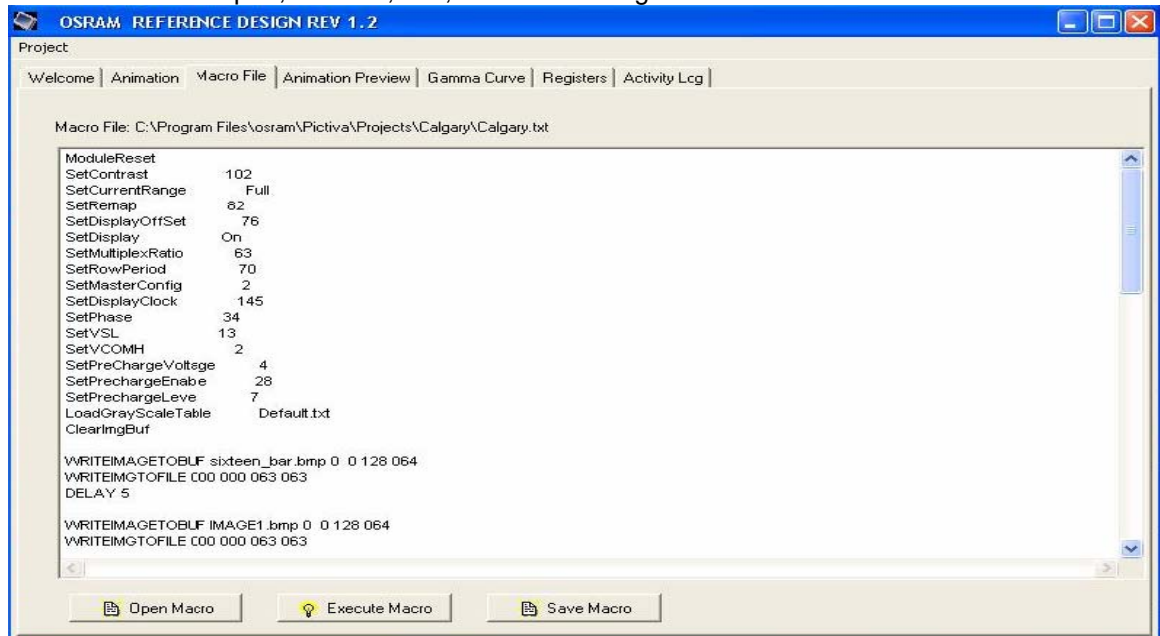

Figure 4
4. Click the “**Open**” button. The contents of the macro file, testloop.txt, are inserted into the window of the Macro File tab. Refer to Figure 4.